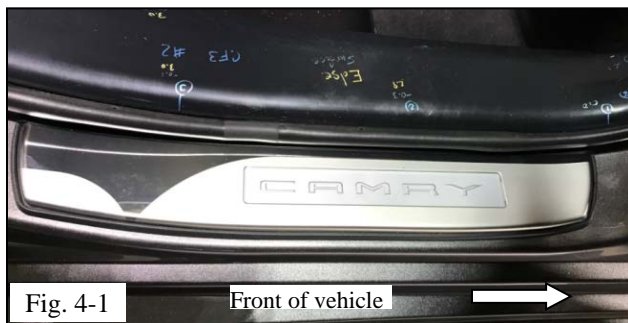

Fig. 4-1
- (2) When installing the door sill on the correct side, the word “CAMRY” is toward the front of the vehicle (Fig. 4-1)